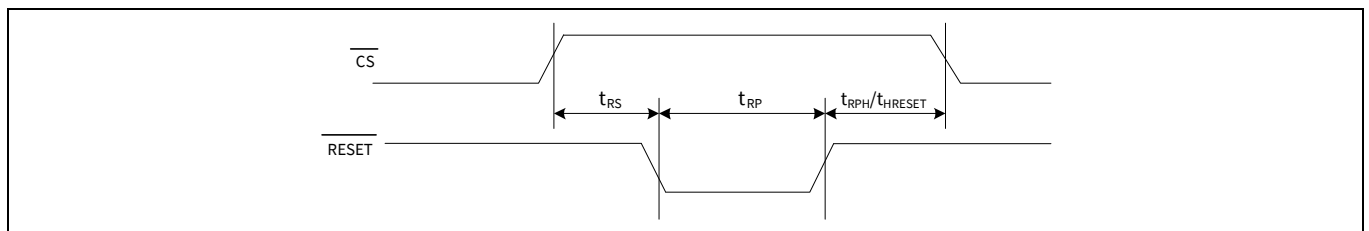
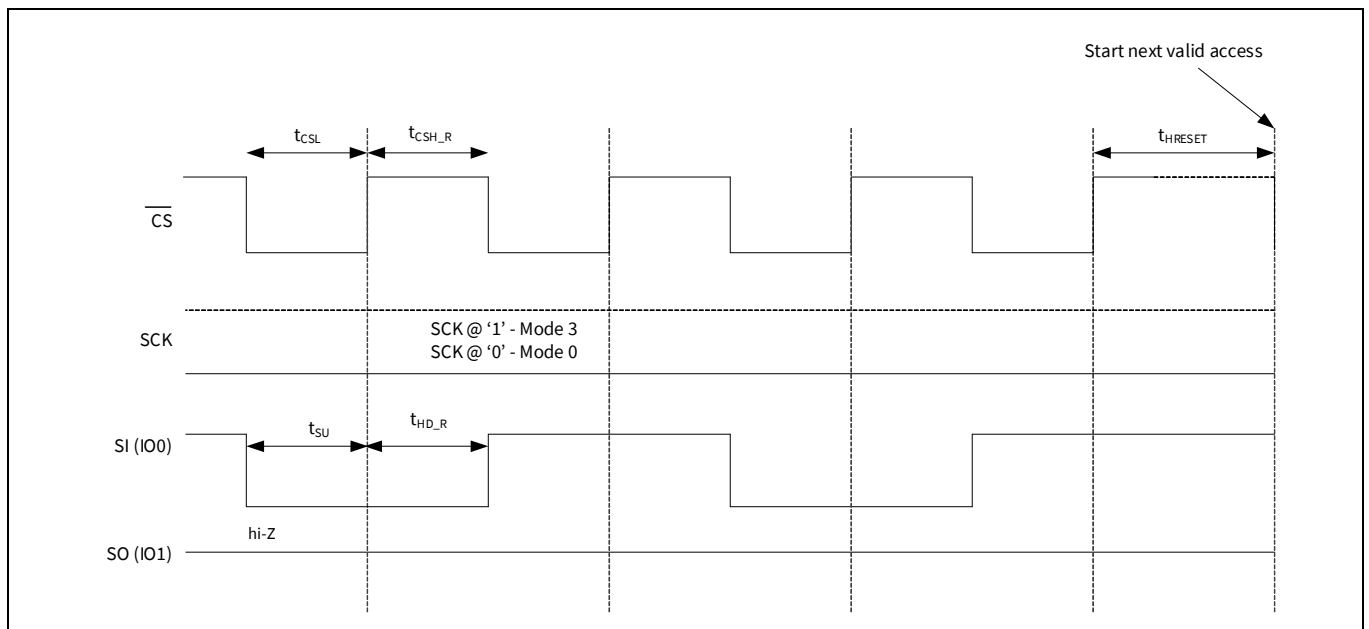

Figure 110 $\overline{\text{RESET}}$ timing - QUAD set (CR1[1] = ‘1’) or QPI enabled (CR2[6] = ‘1’)
Figure 112 JEDEC SPI reset
The hardware reset input ($\overline{\text{RESET}}$) is multiplexed on ($\overline{\text{RESET}} / \text{I/O3}$) and is an active LOW signal in CY15B201QSN device. Refer to **Table 21** for hardware reset ($\overline{\text{RESET}}$) pin configurations across various SPI interfaces. When $\overline{\text{RESET}}$ is pulled LOW, CY15B201QSN self initializes and brings its configuration back to the power up status. Refer to **Table 59** for different registers configuration after $\overline{\text{RESET}}$ cycle. Once $\overline{\text{RESET}}$ is issued, CY15B201QSN takes $t_{\text{RPH}}/t_{\text{HRESET}}$ time from $\overline{\text{RESET}}$ rising edge to complete the reset cycle. CY15B201QSN becomes inaccessible during t_{RPH} time. **Figure 110** to **Figure 112** show the $\overline{\text{RESET}}$ timings in different reset mode.
- The $\overline{\text{RESET}}$ pin is multiplexed on I/O3 in the QPI mode. When using the hardware ($\overline{\text{RESET}}$) in QPI mode, the CR2 [5] bit must be set to ‘1’ to enable to use I/O3 as $\overline{\text{RESET}}$ input when $\overline{\text{CS}}$ is HIGH. **Figure 110** shows the $\overline{\text{RESET}} / \text{I/O3}$ timing in QPI mode
Refer to **Figure 112** for timing details.